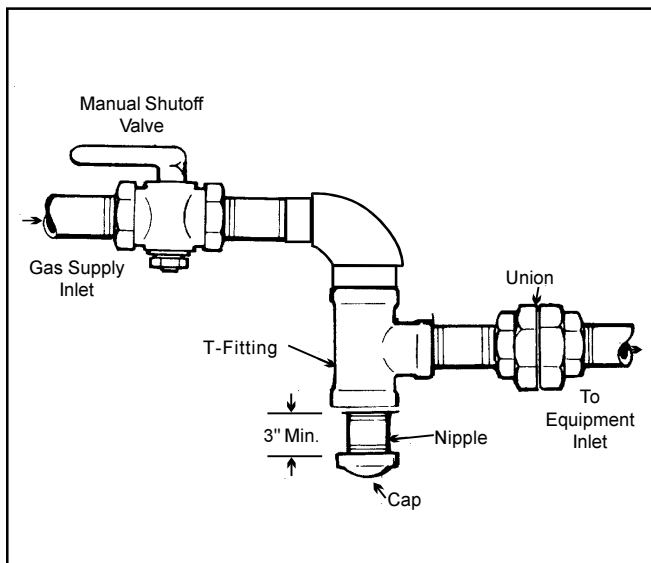

Figure 7. The Proper Design for a Sediment Trap/Drip Leg.
7. Install a sediment trap (drip leg) ahead of the gas controls (see Figure 7). Fit the trap with a threaded cap which can be removed for cleaning.